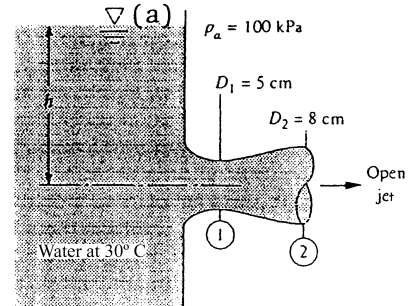

Fig. P3.170
**3.170** If losses are neglected in Fig. P3.170, for what water level  $h$  will the flow begin to form vapor cavities at the throat of the nozzle?
**Solution:** Applying Bernoulli from (a) to (2) gives Torricelli's relation:  $V_2 = \sqrt{2gh}$ . Also,